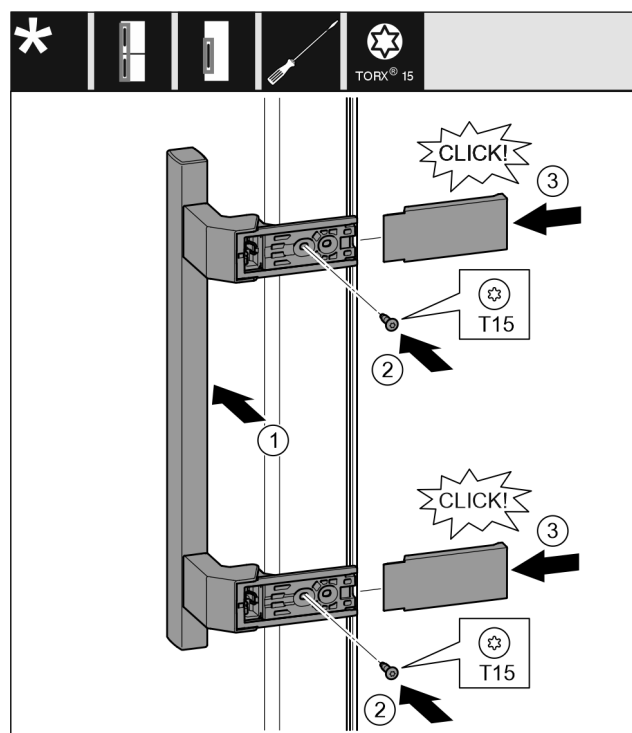

Fig. 19
- Position the handle on the opposite side. Fig. 19 (1)
- Tighten the screws using the T15 screwdriver. Fig. 19 (2)
- Position the covers on the side and push them on. Fig. 19 (3)